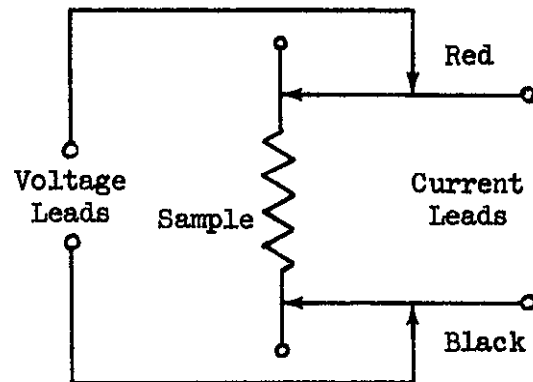

FIGURE 4. Two-terminal connection.
- b. Two terminal connections: This type connection is made by attaching together voltage and current clips having like color insulators and measuring across the sample. (Fig. 4) This type connection is permissible when measuring samples above 3 ohms. (See Section 2-18)